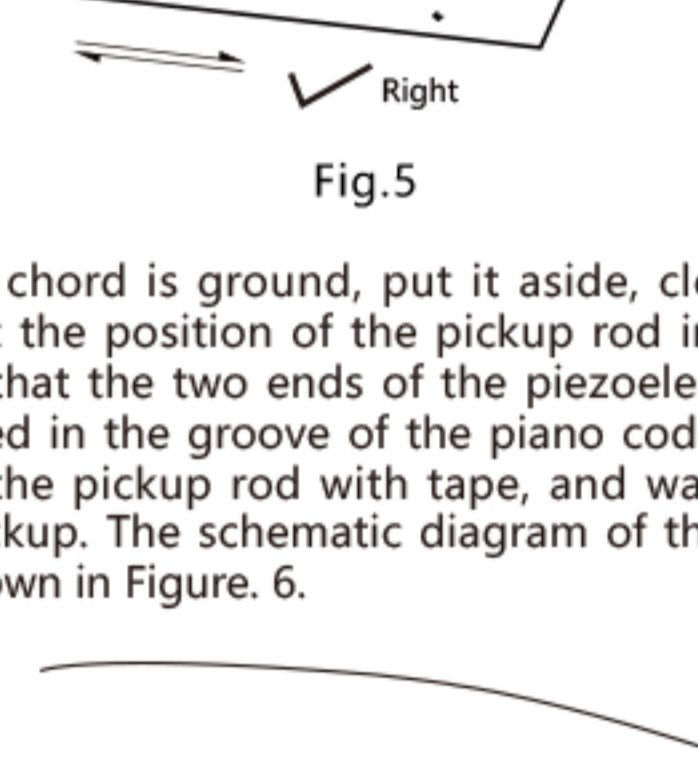

Fig.5
4. Grind the chord. Insert the 2.5mm plug of the piezoelectric probe into the groove of the chord pillow near the 3mm hole of the 6 string, move the probe lead to the position of the pickup rod, and place the pickup rod in the groove so that the two ends are evenly distributed in the groove. For a Bar-G piezoelectric probe, insert the other end of the pickup rod into a hole 3mm below the 1st string. If it is a Bar-A piezoelectric probe, just adjust the position. Then put the lower string pillow into the groove and flatten the pickup rod. Observe the position of the lower string pillow at this time. Grind the string pillow in the direction of the string pillow. At the beginning, you can quickly grind it with force. After grinding a little, put the lower string into the groove of the piano code again and observe the position of the marking lines around it. When the marking line approaches the piano code position, slow down it. Gently grind and repeat this process until the marked lines around the chord just match the size of the piano. When grinding the chord, keep the ends of the chord evenly and grind perpendicular to the direction of the sandpaper. Do not grind the end of the chord high or low or obliquely, as shown in Figure 5.